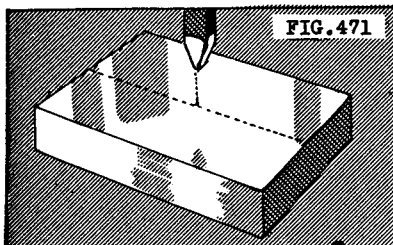

FIG. 471
4. Move the ram until the tool is directly above the top surface of the work (Fig. 471).